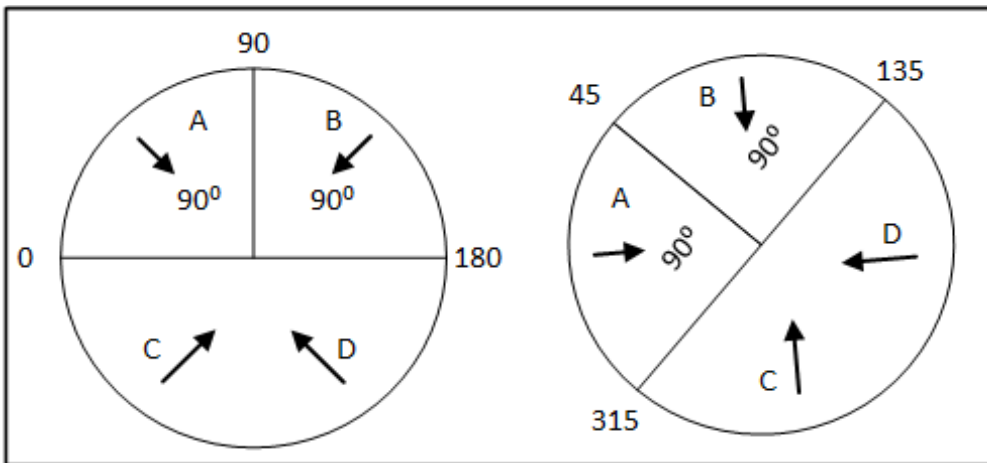

Figure 7: Wind Direction Sensor Definition (7.18)
The number entered here defines the area on both sides of the sensor! Figure 7 illustrates a chicken house with four wind sensors. Sensor 1's Wind Direction parameter is defined as 45° or **90° total**. Winds that come within this area (A) are used for Natural Programming. The controller disregards winds outside of this area (B & C).